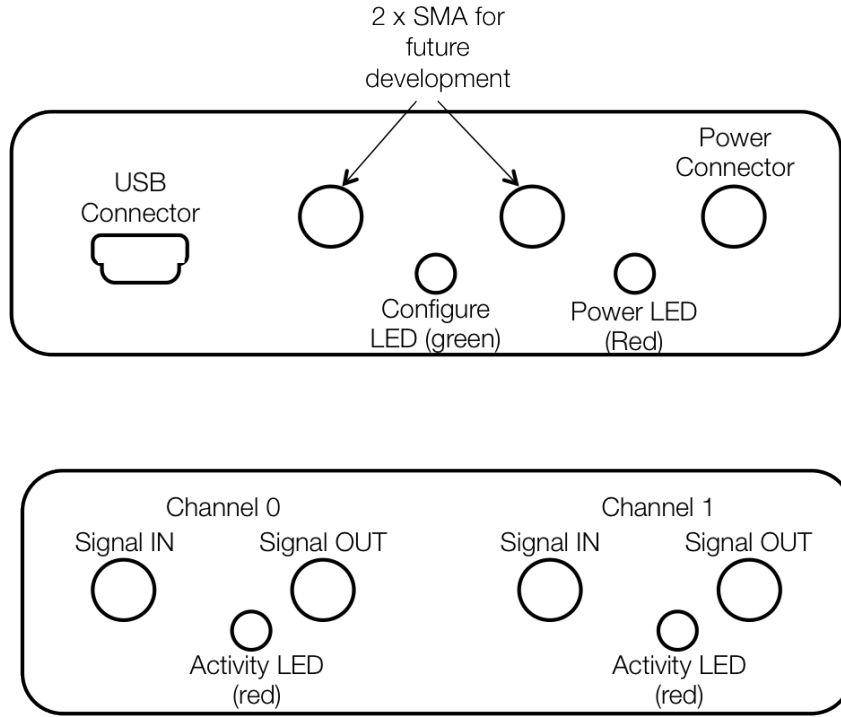

Figure 1 Module side panels
N.B. If during power up of the module the **Power LED fails to light**, please turn off the power and then switch it back on again. The Power LED should now light. The location of the Power LED is shown in Figure 1.